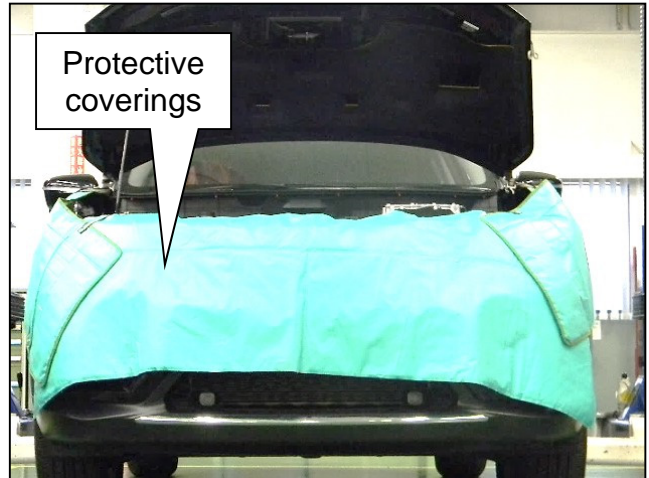

Figure 8
13. Open the vehicle's hood and place protective coverings on the fenders and front bumper, as shown in Figure 8.